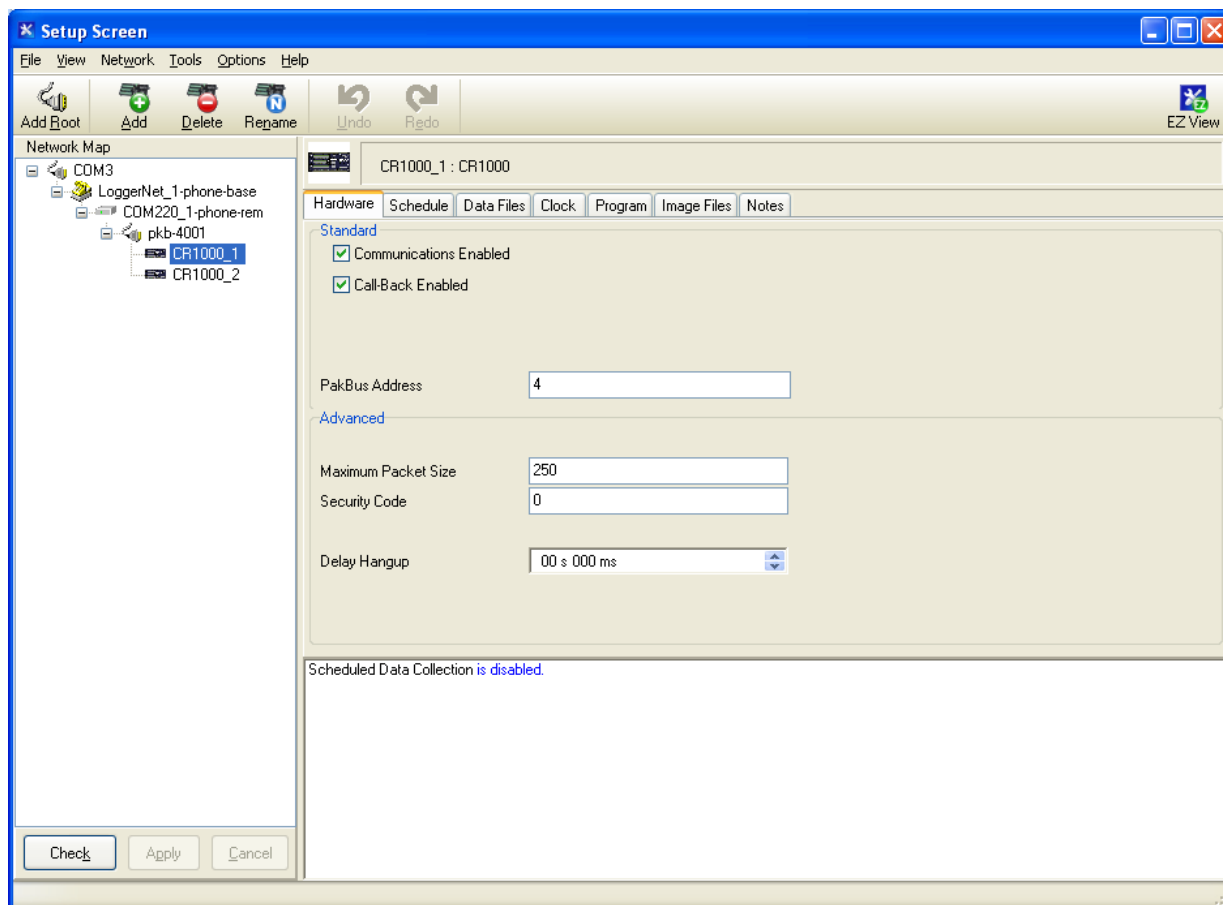

FIGURE I-4. Enter 250 for the Maximum Packet Size.
- f. CR1000_1 (see FIGURE I-4)